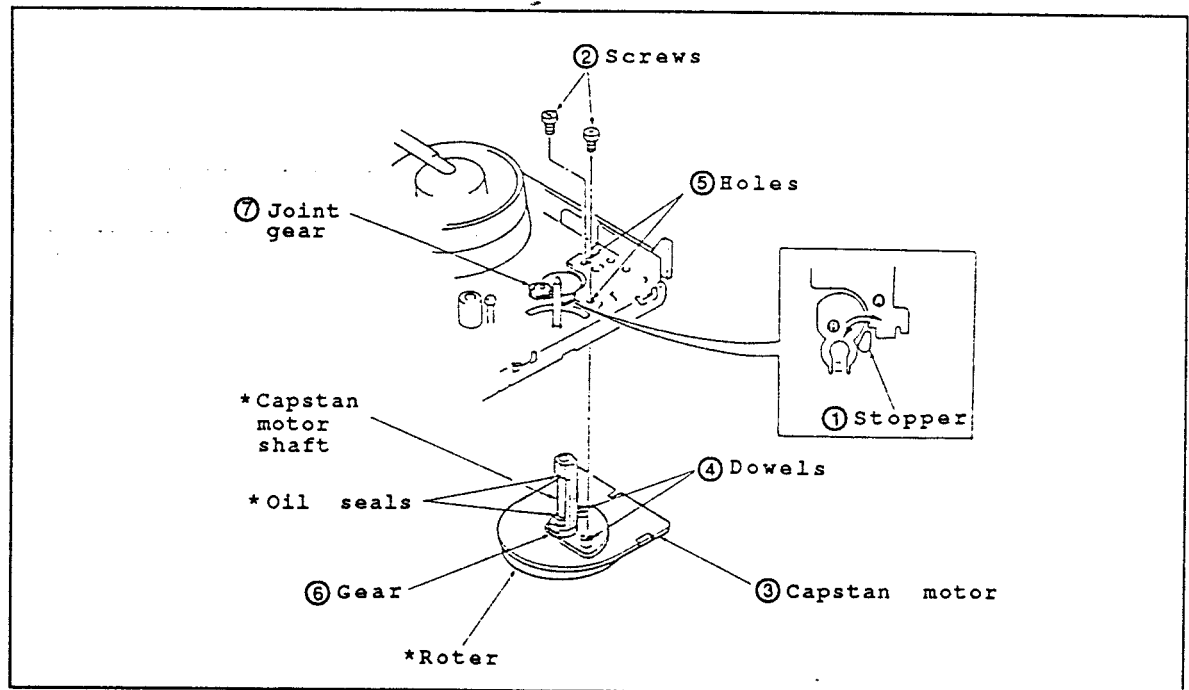

Fig.II-9
- Disassembling (Fig.II-9)
- (1) Set the unloading state.
- (2) Rotate the stopper ① in direction ④ until it comes to an end.
- (3) To take out the capstan motor ③, remove the two set screws ②.
- Reassembling (Fig.II-9)
- (1) Align the two dowels ④ with the two holes ⑤ to match the gear section ⑥ with the connecting gear ⑦.
- (2) Secure the capstan motor ③ with the two set screws ②.
- (3) Rotate the stopper ① in direction of ⑧ until it comes to an end.